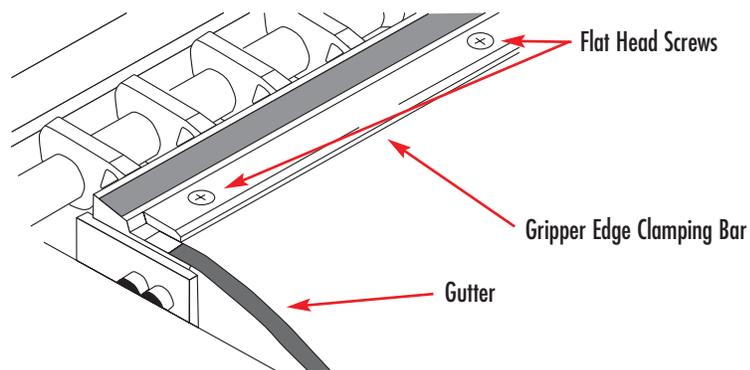

Figure 1
4. Once the surfaces are cleaned, rotate the transfer cylinder to access the gripper edge clamping bar. (See Figure 1.)
5. Loosen (but do not completely remove) the spring-loaded flat head screws enough to allow the Super Blue LT system to slide under the clamping bar. As the screws are loosened the springs should raise the clamping bar. (See Figure 1.)